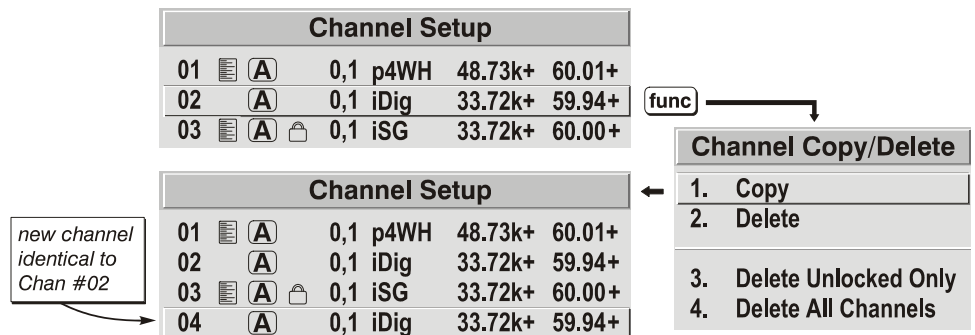

Figure 3.11. Copying a Channel
► **TO COPY A CHANNEL**, highlight the desired channel in the *Channel Setup* menu, and then press **[Func]** to go to the *Channel Copy/Delete* submenu. Select “Copy” and press **[Enter]**—a new channel will be created. It is identical to original, which still remains, but it is identified with the next available number from 01-50 (**Figure 3.11**). If you change your mind and do *not* want to copy the current channel, press **[Exit]** to cancel and return to the previous menu. Copying channels is a quick method for creating numerous channels, each of which can then be edited and adjusted for a variety of presentations in the future.